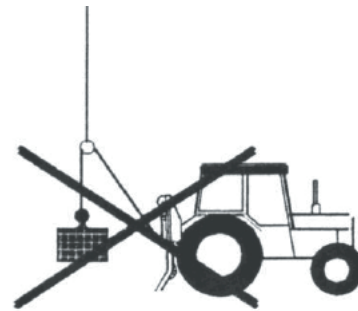

Figure 5
- 28. Do not use the winch for unintended purposes (lifting loads, etc.).(Figure 5)